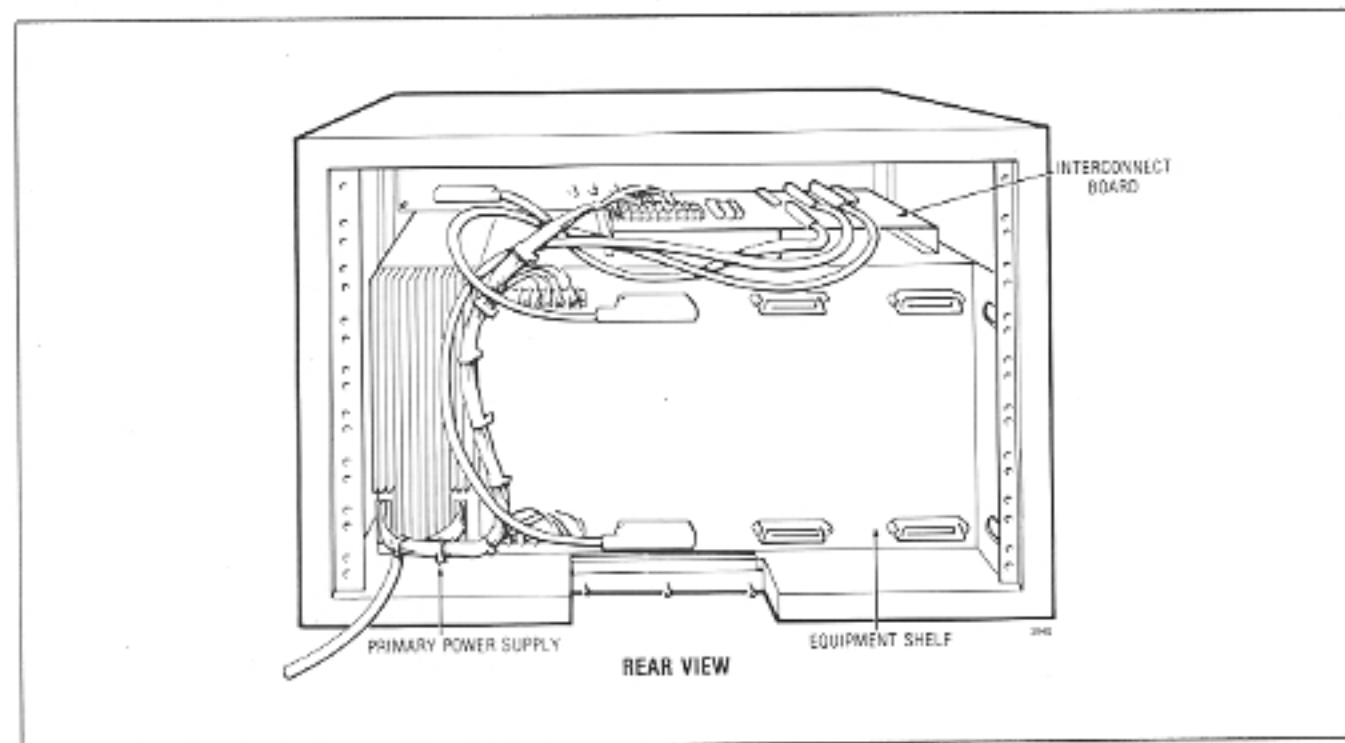

Fig. 2-5 Primary Power Supply
2.15 The system primary power supply (Fig. 2-5) mounted to the right of the equipment shelf (total weight 15lbs. (35kg)) provides all system power from 115Vac or 230Vac, 48Hz to 64Hz commercial power supply. With a special 220Vac adapter the SX-100 may be operated from 220Vac 48Hz to 64Hz.